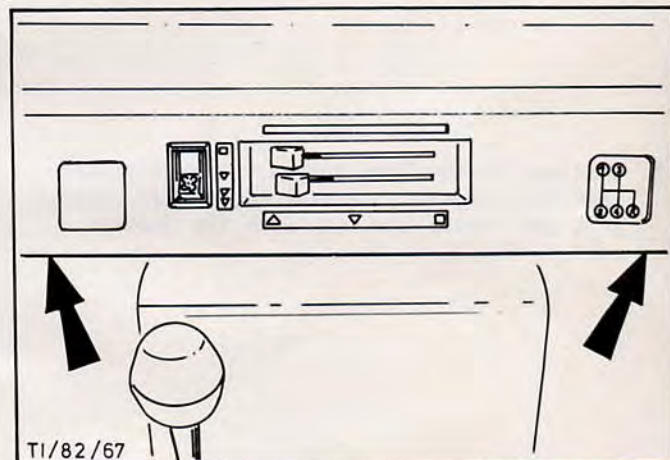

Fig.8. Detach bezel from the facia panel - retaining screws arrowed.
3. Detach bezel of heater control unit under the facia panel (2 crosshead screws), Fig.8.